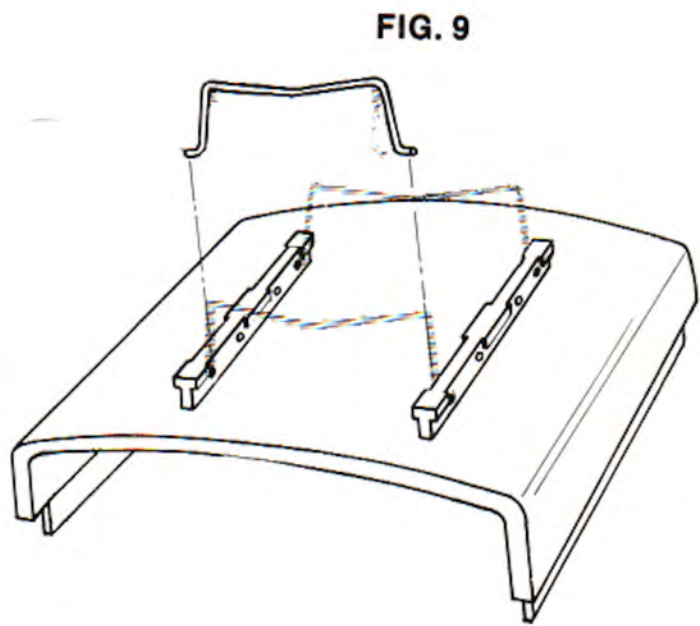

FIG. 9
- [] If Counter checks out OK, attach main PC board to bottom case half using three (3) #4-40 x 1/4" self tapping screws provided.
- [] Attach top case half to bottom case half, guiding the front and rear panels into their appropriate grooves. Use four (4) long screws provided.
- [] The wire Tilt Bail may be inserted in the holes on the case feet. Insert into holes towards the front for tilting case up. Insert into holes towards the rear for tilting case down when Counter is placed on a shelf above eye level. (FIG. 9).